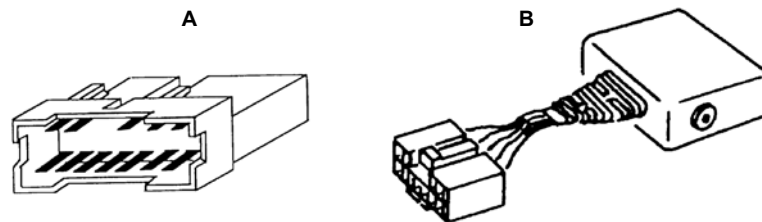

Figure 9-2 Connector and adapter for most OBD-I vehicles
- Use the HYUN-2 adapter (Figure 9-2).